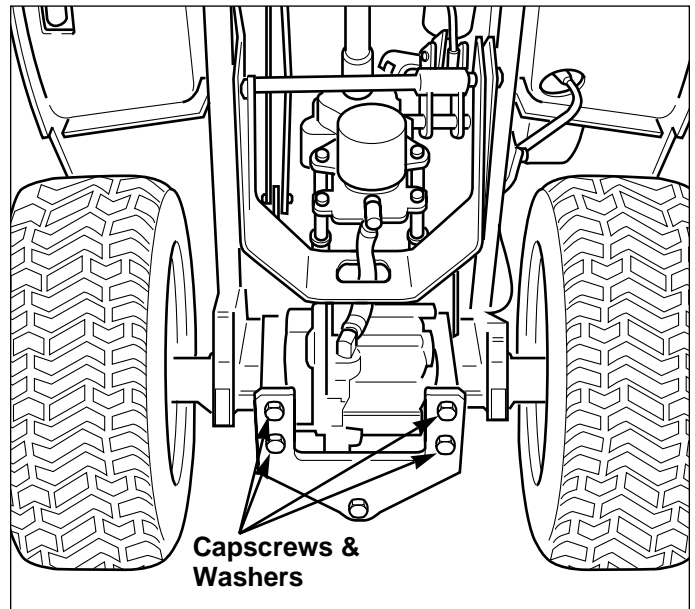

Figure 9. Drawbar Bolts & Washers
1. Remove the front four capscrews and lockwashers securing the drawbar to the transmission (see Figure 9).